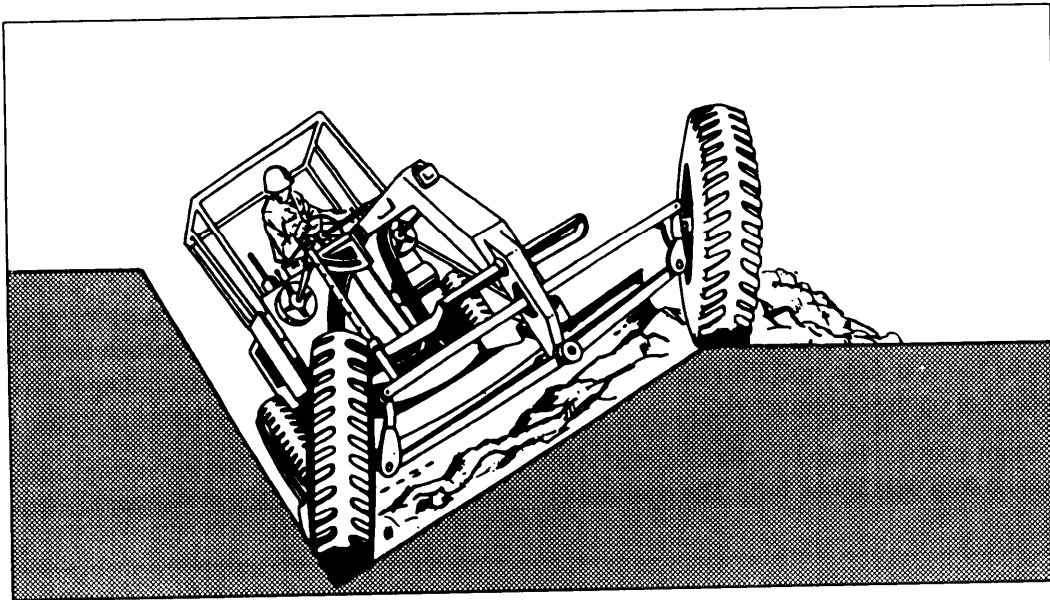

Figure 10-15.-Wheel lean on a ditch slope.
When grading a ditch foreslope, as shown in figure 10-15, lean the top of the wheels enough to keep them in a vertical working position. This wheel lean technique will do the following: (1) keep the grader from drifting down the bottom of the foreslope and (2) keep the grader wheels from climbing the walls of the backslope.